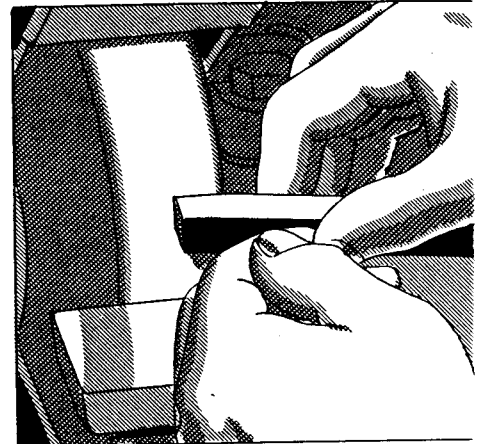
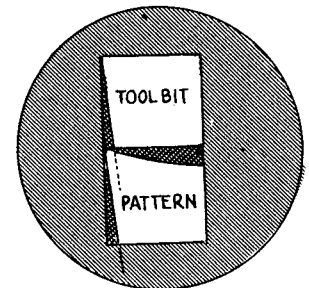

FIG. 559
FIG. 560
6. Hold the tool bit in the right hand and support it with the left hand (Fig. 559).
7. Hold the tool at an angle of about 8° with the face of the wheel to give the necessary side-cutting-edge angle (Fig. 559) and, at the same time, tip the top of the tool outwards from the wheel to produce a side relief, or side clearance, of about 4° (Fig. 560).
10. Place the tool and the pattern together and by observation check the ground angle of the tool with that of the pattern (Fig. 560), or check with a protractor set at the correct side-relief angle (Fig. 561).